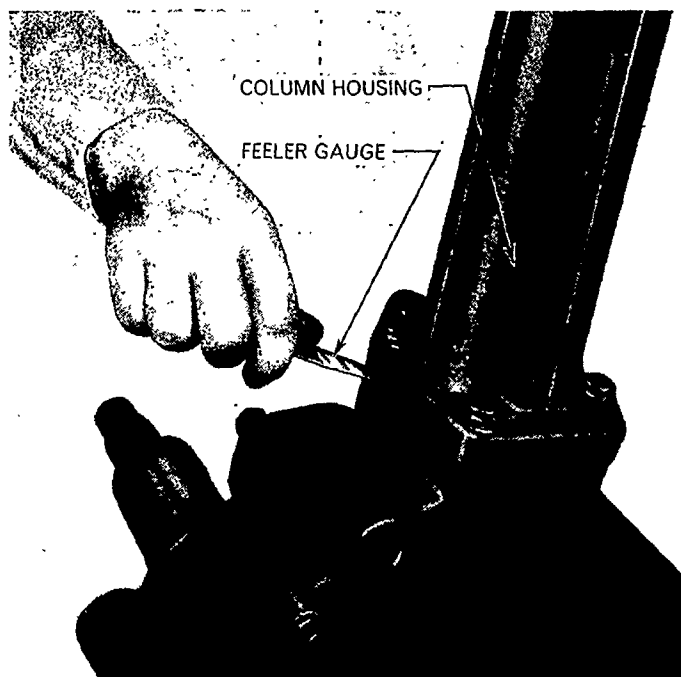

Figure 6
2. Install the column extension housing on the shaft without the shims or gasket, install the retaining bolts and tighten finger tight. Measure the gap at several points with feeler gauges, Figure 6, to obtain the thickness of shims required to eliminate end-float. Remove the housing and select the appropriate shims taking into consideration the compressed thickness of